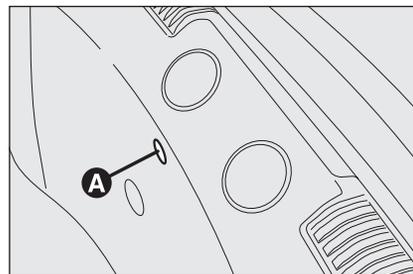
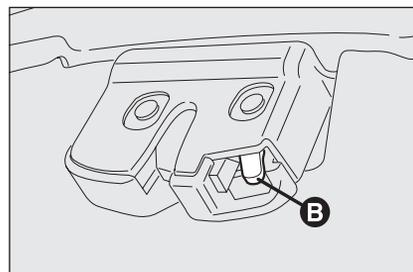

fig. 4
fig. 5
- take the screwdriver from the tool container and working inside the boot (on the rear part), fit it into seat **A-fig. 4** and then operate lever **B-fig. 5**.